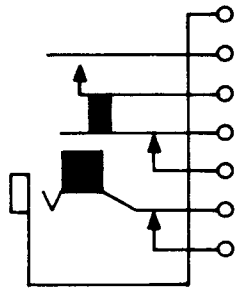

Fig. 4—309C Jack
2.04 **309C:** This single-mounted jack (Fig. 4) is used with the 347 plug. The contact springs are equipped with bimetallic bar-type contacts that have caps made of No. 2 metal. The 309C jack replaces the 309CK jack.